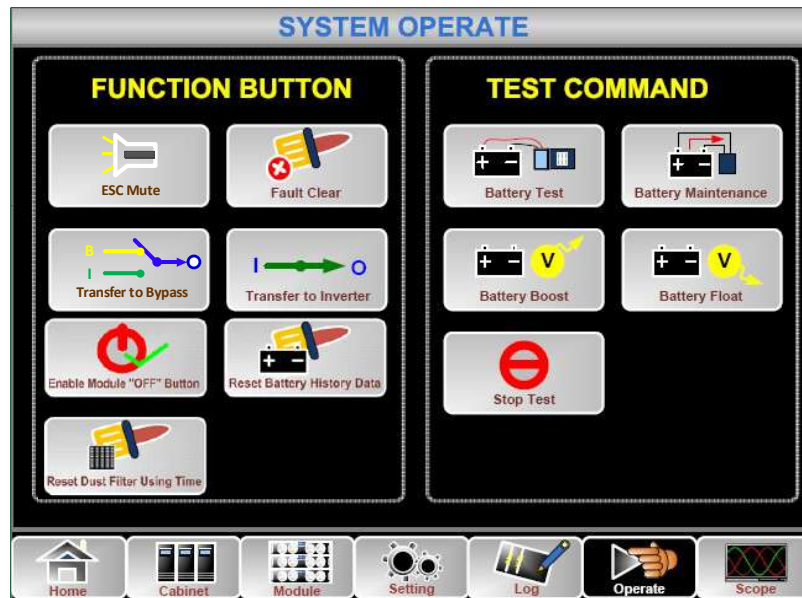

Figure 5-2 Battery maintenance
- 1) Manual Discharging test. Enter the menu Operate, as is shown in Figure.5-2 and